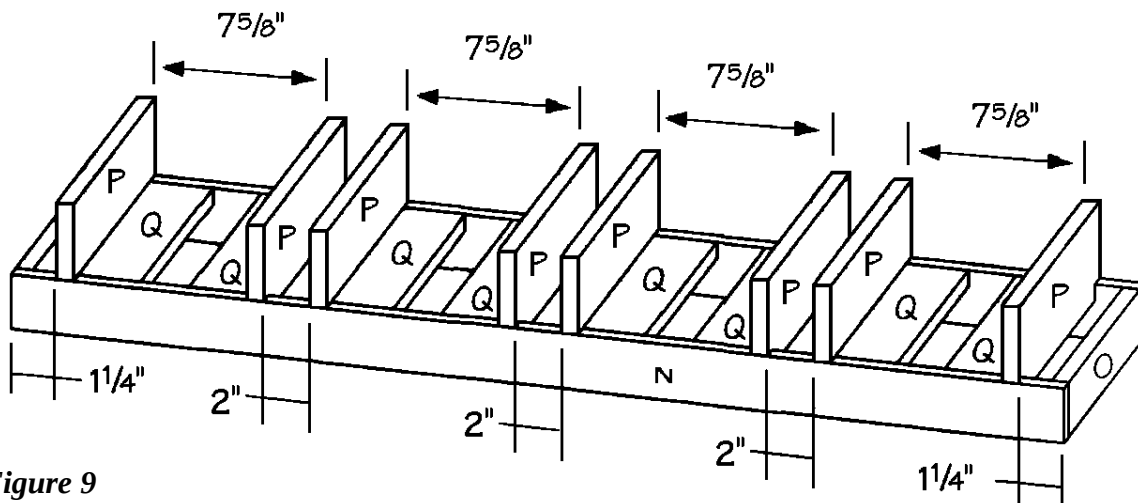

Figure 9
9. Attach the guide assemblies to the support assembly, as shown in *Figure 9*. Position all the pieces and mark their locations. Then slide the marked support assembly into the top assembly to check the locations of the long guides (P). The long guides (P) will butt against the backs of the vertical trims (C), with the face of each long guide (P) flush with an edge of its vertical trim (C). Begin on the left side, placing the first guide assembly with its short guide (Q) portion inside the support assembly and with the outer face of its long guide portion (P) 1-1/4" from the end of the support assembly.
10. Position the second guide assembly so that the long guide (H) portion is 7-5/8 inches from that of the first guide assembly.
11. Position the third assembly so that the long guide (H) portions of the second and third assemblies are 2 inches apart.
12. Repeat Steps 10 and 11 to add the remaining guide assemblies, as shown in *Figure 9*.
13. When you are sure that the spacing is exactly correct, secure each of the guide assemblies to the support assembly. Screw through each of the long supports (N) into the ends of the short guide (Q) portions of the guide assemblies. Use two 1-1/2-inch screws on each of the joints.
14. Slide the entire guide/support assembly inside the back of the top assembly. Check the alignment and then screw through the front vertical trims (C) into the ends of each of the guide assemblies. Use two 1-1/2-inch screws on each of the joints.
15. Cut one back (R) from 3/4-inch plywood, measuring 11 x 48 inches.
16. Fit the back (R) over the edges of the top/bottoms (A) and the sides (B). Apply glue to the meeting surfaces and screw through the back (R) into the edges of the top/bottoms (A) and sides (B) using 1-1/2-inch-long screws spaced about every six inches.